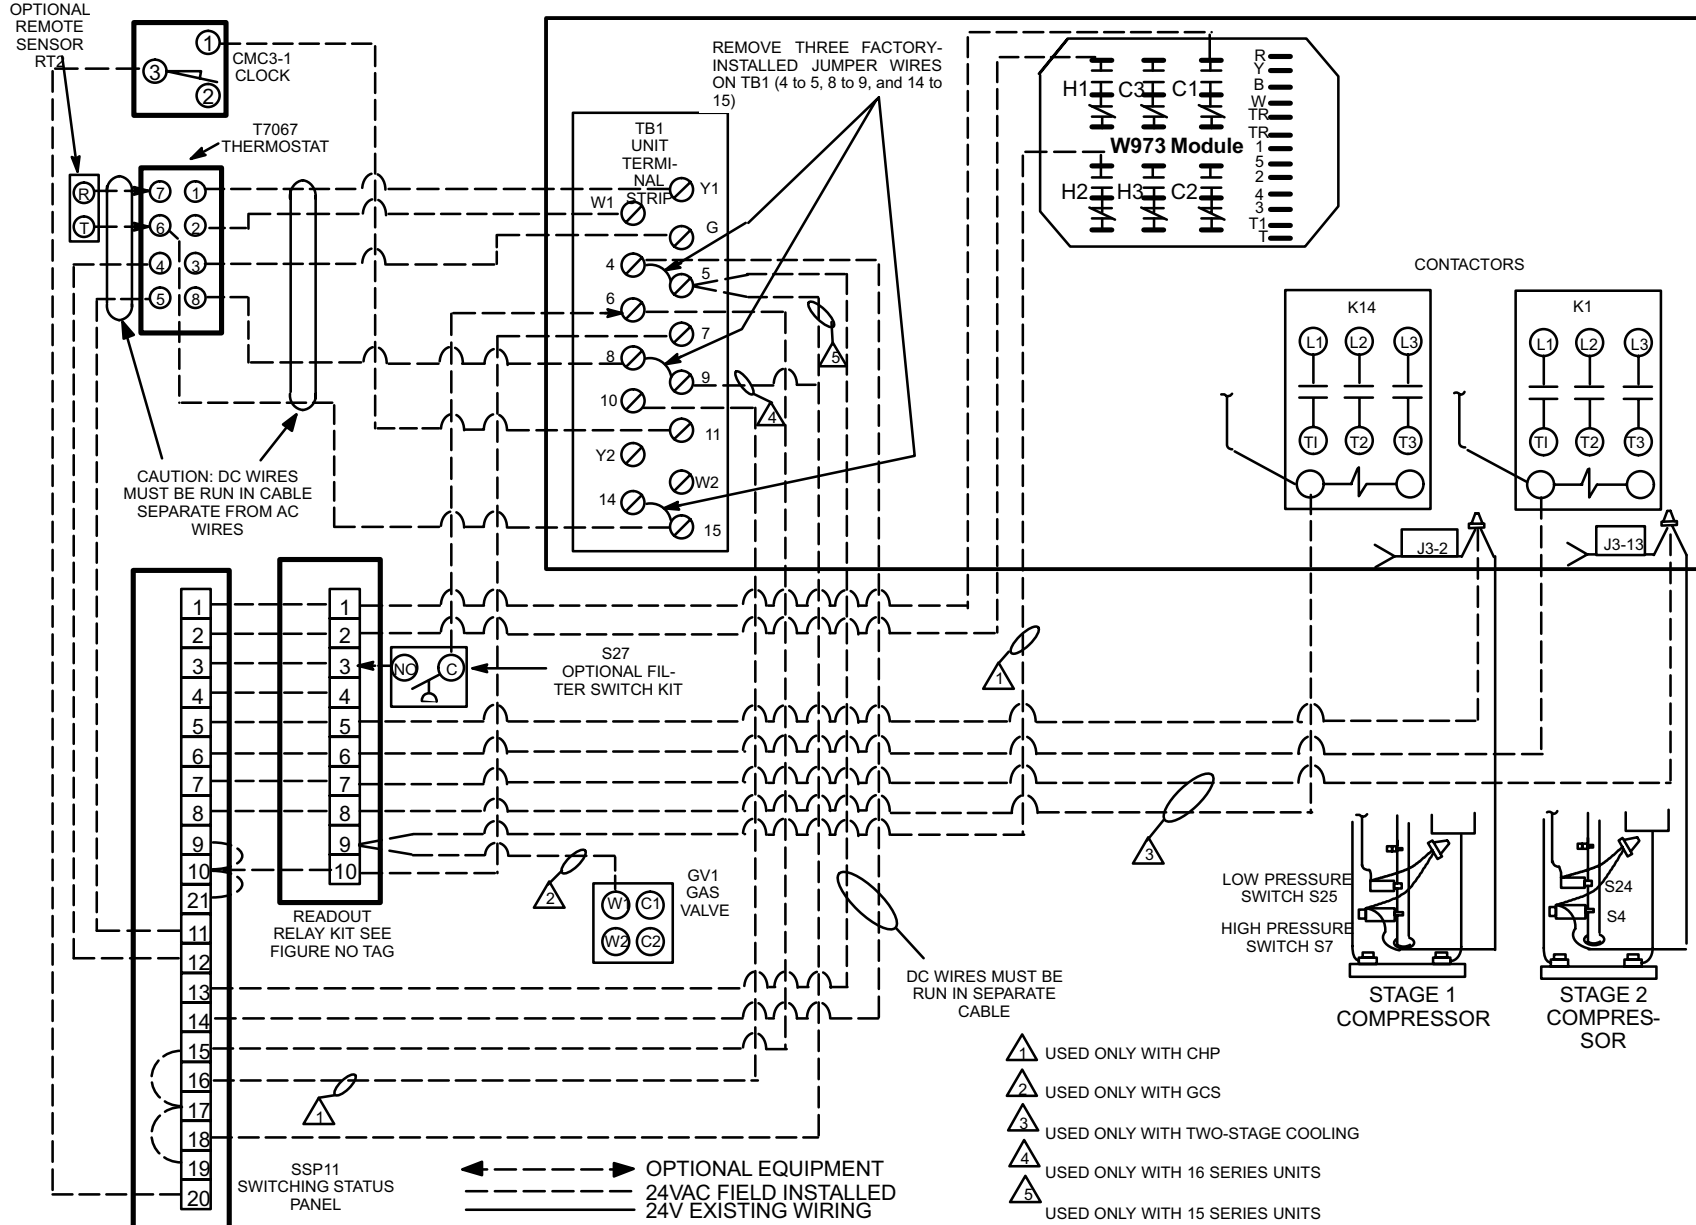

FIGURE 60
- 2- Make electrical connections as shown in figures 60 or 61 for SSP11.